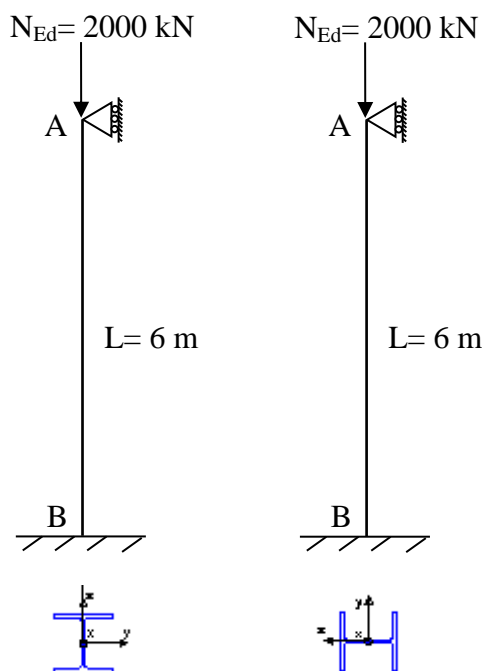

Figure 2
A compression member is concentrically connected at both A and B ends. The end A of the member behaves as a pinned while other end B behaves as a fixed as shown in Figure 2. The grade of steel is S355 and length of the member is 6 m. The member is subjected to a design axial compressive load of 2000 kN.
- (a). If the cross section of the member shown in Figure 2 is HE200B (HE-B Table 1.3 of “STÅLKONSTRUKJONER”).
- (b). If the cross section of the member shown in Figure 2 is HE800A (HE-A Table 1.2 of “STÅLKONSTRUKJONER”).